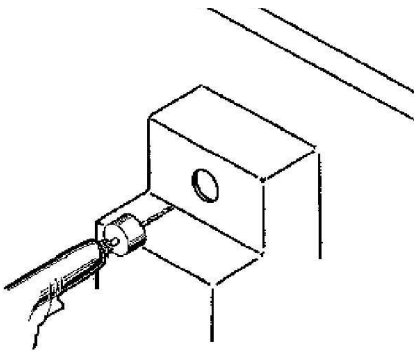

Fig. 3
2. With the use of a drill make a round hole a diameter of 60 mm in the wall of SPAs (Fig. 3).